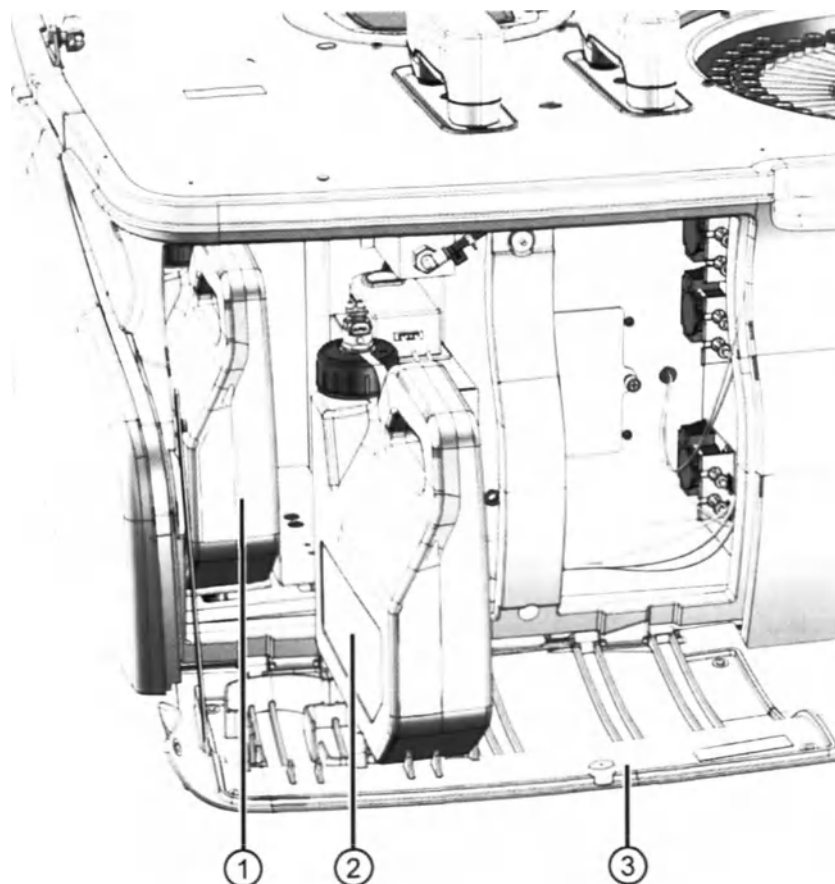

Figure 6 Location of the waste bottles and washing solution
If you open the front door, you will see two bottles inside. The one on the left with red cap is the high contamination waste bottle (1) and the one on the right with green cap contains the washing solution (2). See Figure 6.